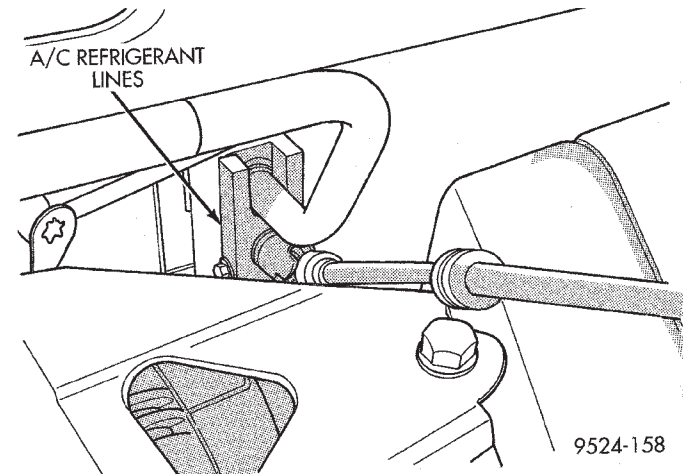
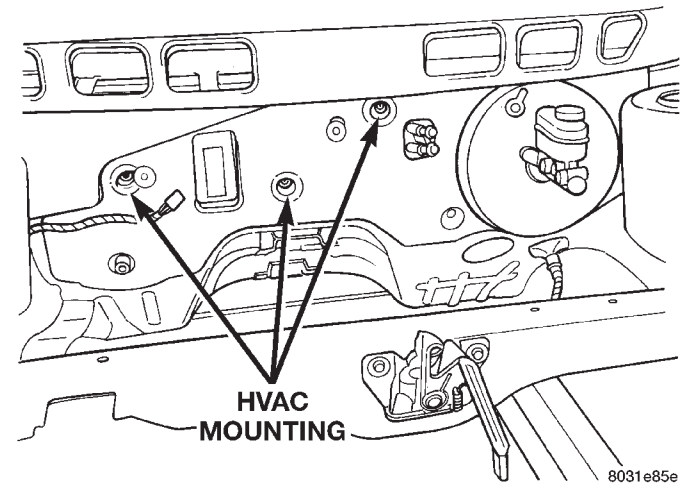

Fig. 27 A/C Refrigerant Line Plate
Fig. 30 HVAC Bolt-Up
- (1) Disconnect the battery negative cable.
- (2) Recover A/C system refrigerant.
- (3) Remove the accessory drive belt.
- (4) Remove upper generator bracket.
- (5) Disconnect generator field wire connector.
- (6) Push generator forward.
- (7) Remove ground wire at dash panel.
- (8) Remove the nut retaining the refrigerant line sealing plate to the expansion valve (Fig. 27).
(1) Set parking brake.
(2) Disconnect battery negative cable.
(3) Using a refrigerant recovery machine, remove refrigerant from the A/C system.
(4) Remove wiper module. Refer to Group 8K, Windshield Wipers and Washers.
(5) Drain engine coolant. Remove heater hoses at the heater core, refer to Heater Hoses Removal and Installation procedures. Plug coolant lines.
(6) Remove suction and liquid lines at the expansion valve (Fig. 27).
(7) Remove the Instrument Panel Assembly. Refer to Group 8E, Instrument Panel and Systems.
(8) Remove heater ducts.
(9) Disconnect the two upper mounts from the upper reinforcement and the lower mount from the tunnel.
(10) Remove the (3) nuts (in the engine compartment) securing the unit to the dash panel (Fig. 30).
- (3) Remove ground wire at dash panel.
- (4) Remove the nut retaining the refrigerant line sealing plate to the expansion valve (Fig. 27).